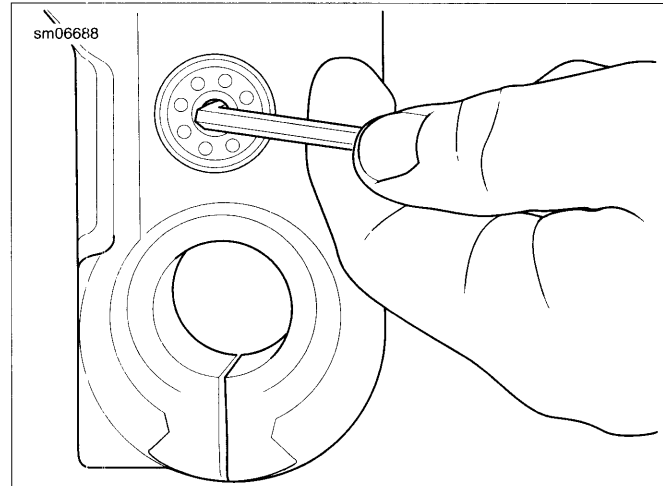

Figure 2-159. Preload Adjuster
1. See Figure 2-159. Back the preload off the fork spring.